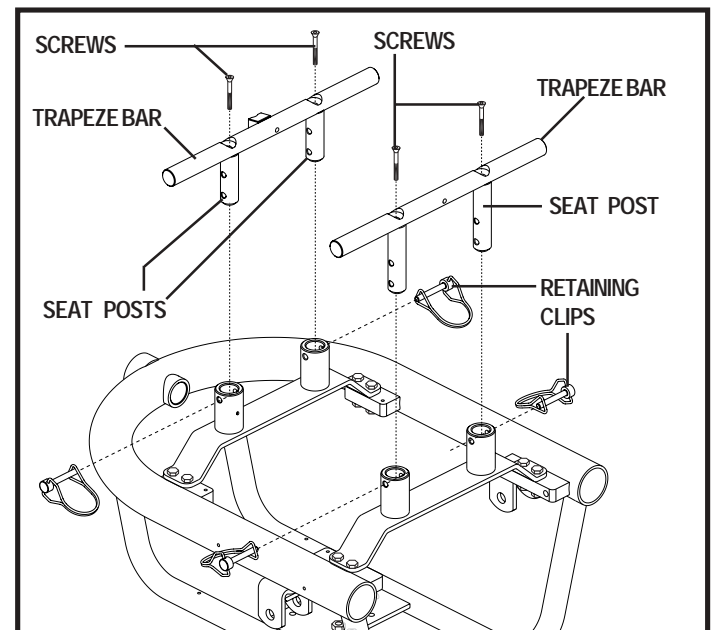

Figure 14. Trapeze Bar Location
7. Loosen the screws that attach the trapeze bars to the seat posts. See figure 14.
8. Remove the retaining clips that secure the seat posts to the power base. See figure 14.